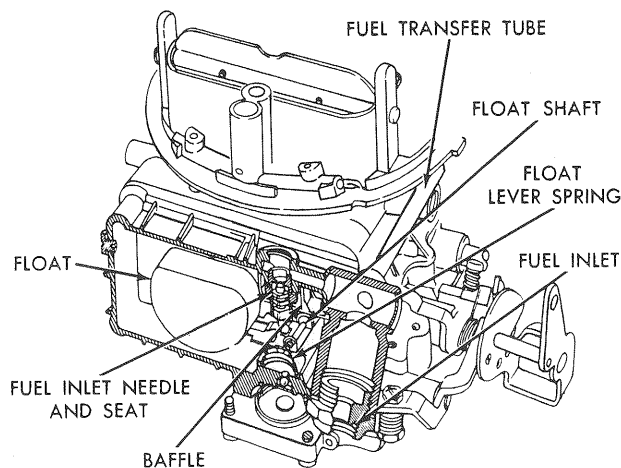
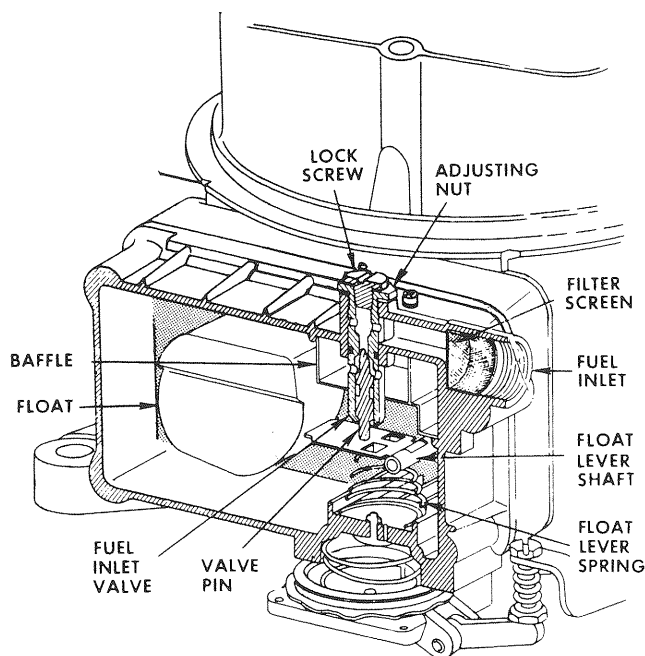
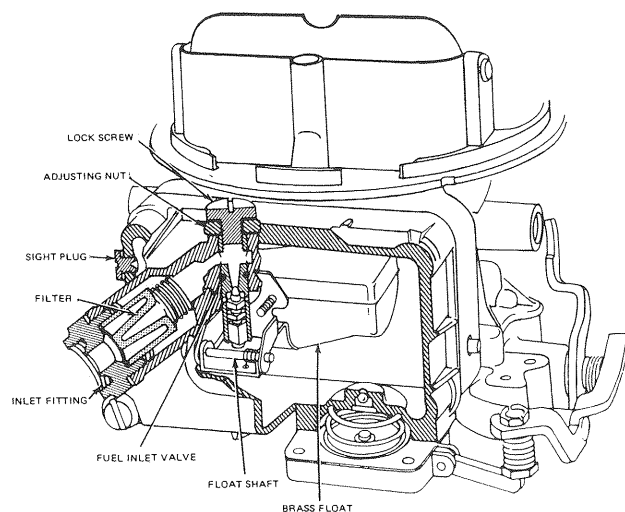

FIG. 4 Fuel Inlet System
FIG. 5 Fuel Inlet System
FIG. 6 Fuel Inlet System
5. Remove the distributor from the press. Install the collar retaining pin (Figure 6) and the gear retaining pin (Figure 4).
Many different types of floats have been used. Early production used side hinged rectangular brass floats. There were two different versions of this float. Later production used a half moon brass float (Figure 4) or a nitrophyl (cellular plastic material) float (Figure 5).